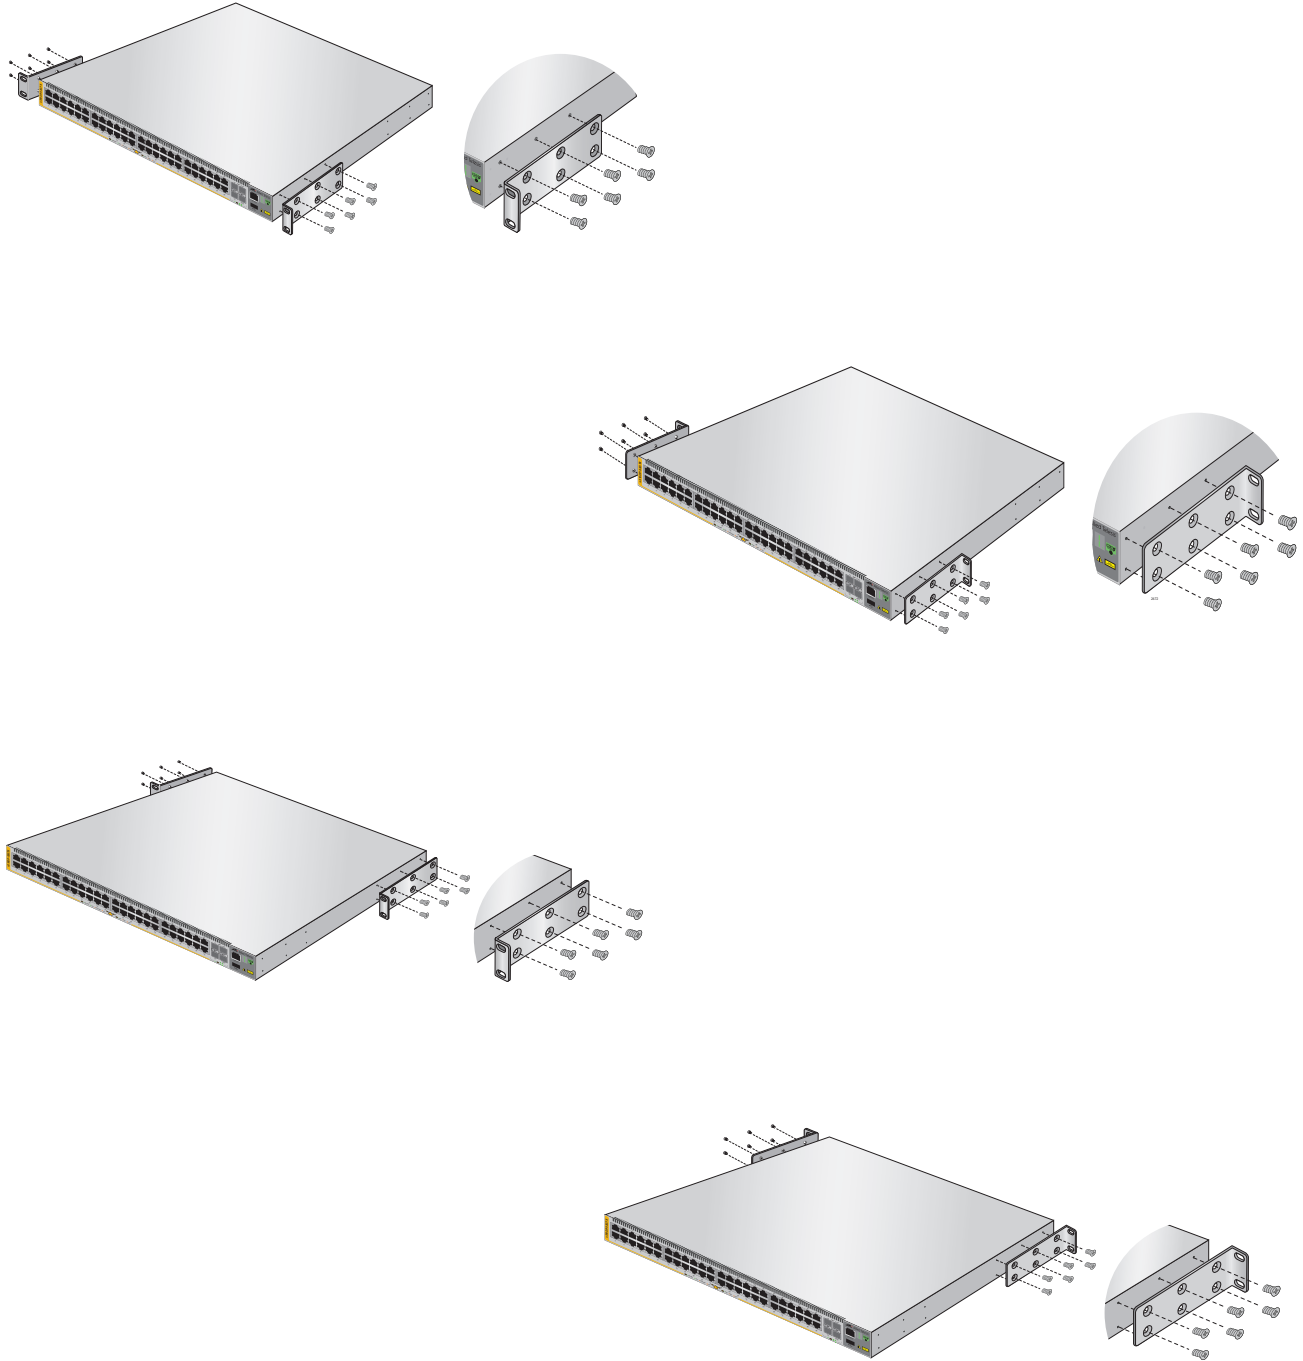

Figure 27. Attaching the Equipment Rack Brackets
4. Attach the two rack mount brackets to the sides of the switch using the bracket screws included with the unit. Figure 27 on page 65 illustrates the four possible bracket positions.